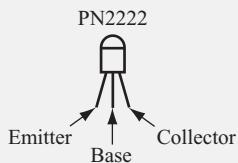

FIGURE 4.12
- One PN2222 transistor. Figure 4.12 shows the pinout diagram for the PN2222.